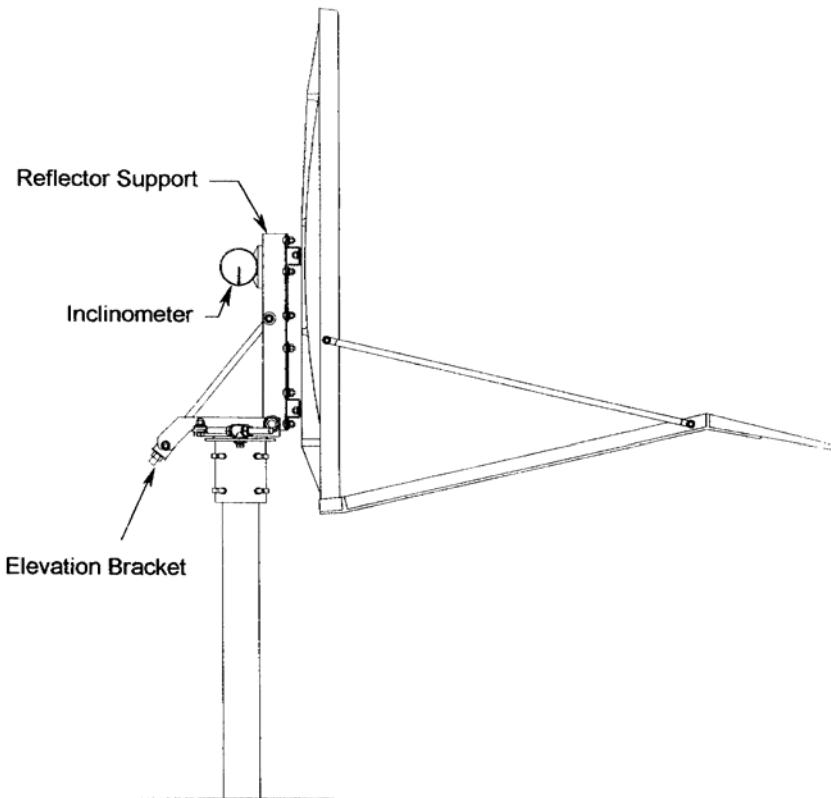

FIGURE 2.
The .89 meter reflector contains a 15.80° elevation offset look angle. Therefore, when the reflector aperture is perpendicular to the ground, the antenna is actually looking 15.80° in elevation. Refer to Figure 2.
- STEP 1:** Place an inclinometer on the reflector support angle as shown in Figure 2.